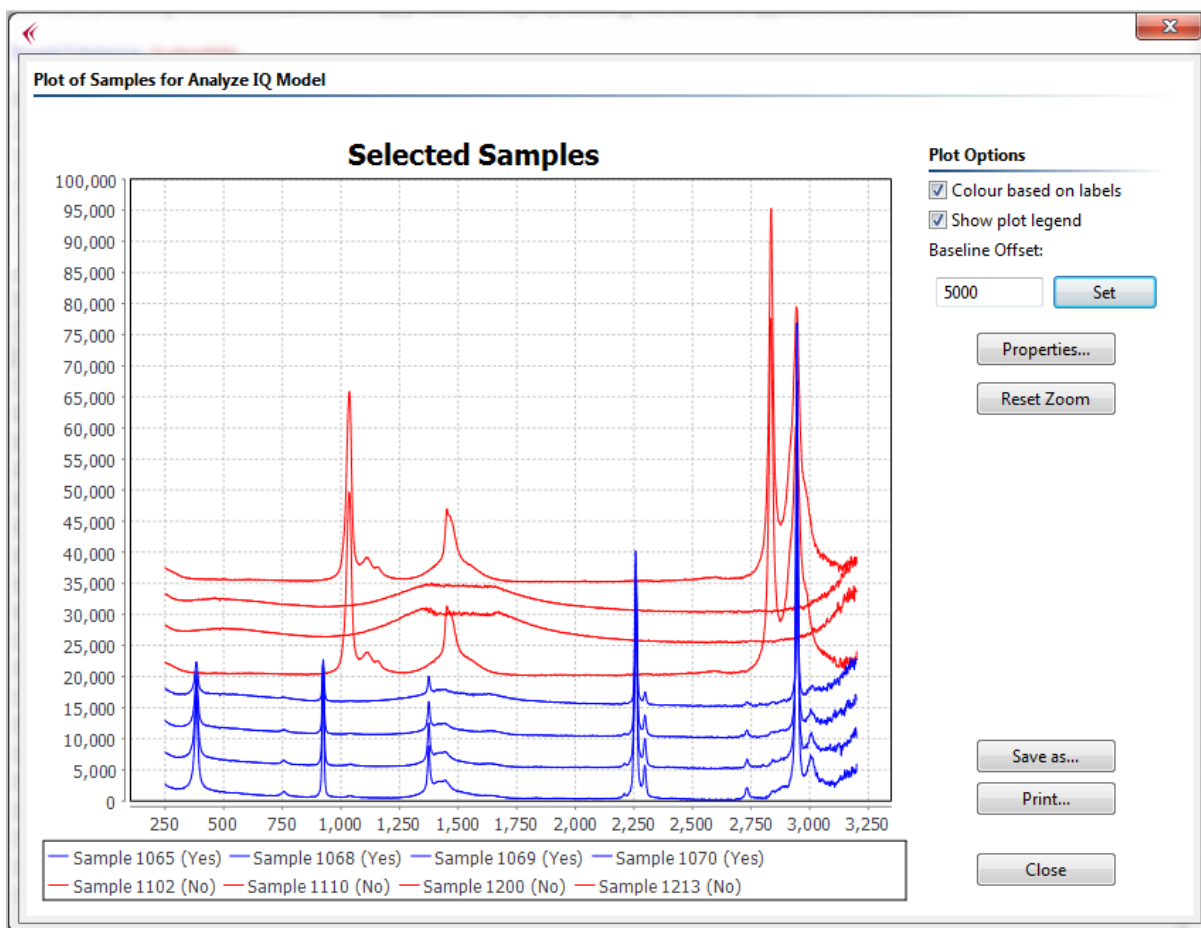

Figure 60: Plot of spectra with ‘Colour based on labels’ option and a baseline offset
- *Color based on labels:* For a qualitative model, this colors all spectra labeled 'Yes' in blue and all spectra labeled 'No' in red. For a quantitative model, spectra are assigned a color along the blue/red spectrum, with values close to 0 being colored blue and those close to 100 being colored red. An example is shown in Figure 60.
- *Baseline offset:* This allows you to specify a baseline offset for spectra in the plot, so that different spectra can be seen more easily. In Figure 60, an offset of 5000 has been applied. Naturally, you should choose a baseline offset appropriate to your data.